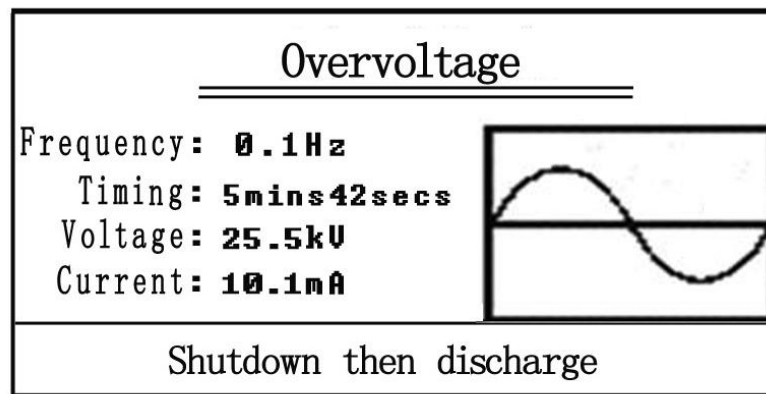

Figure 12
- ★ Additionally there are two abnormal shut-down: overvoltage and overcurrent protective shut-down functions. In case of shut-down, the prompt interface will appear as shown in Figure 12.